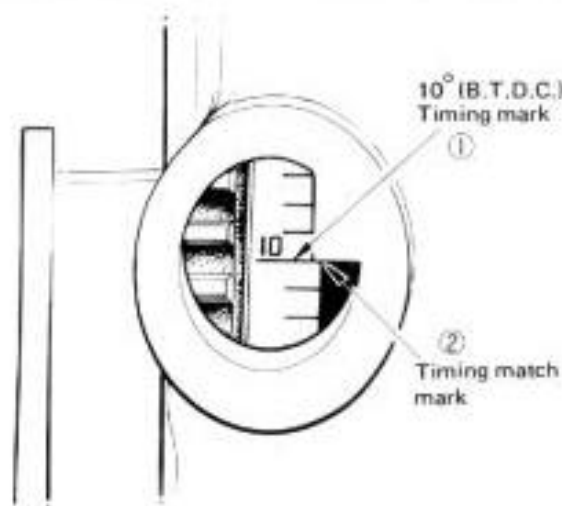

Fig. 8-19
With timing marks ① ② lined up as shown in Fig. 8-19, remove the cylinder head cover and check to be sure that No. 1 cylinder rocker arms are not riding on cam lobes. If the arms are up, turn over crankshaft by one rotation (360°) clockwise (as viewed from front side). This turning should cause the buzzer to sound off just when the marks come into alignment.
- 2) Bring timing mark ① into alignment with mark ②, as shown in Fig. 8-19. Mark ① represents the 10° crank angle.